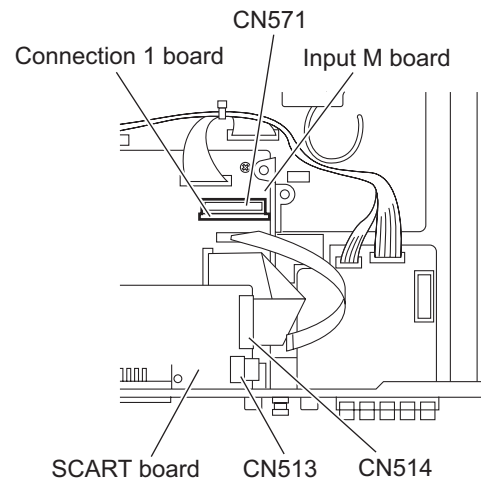

Fig.10
- (2) From the top side of the main body, disconnect the card wires from the connectors (CN513, CN514) on the SCART board. (See Fig.10)
- (3) Take out the SCART board.
3.1.10 Removing the connection 1 board (See Fig. 10)